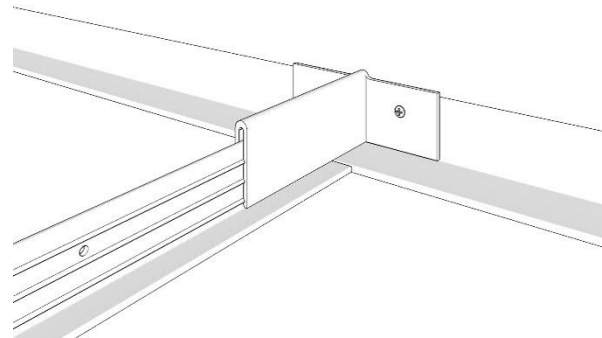

FIG. 7
4. Install the **T-Clamp** at the starting end of the **Mainrail** (**T-Junction**). The **T-Clamp** should rest on top of the **Wallrail** and be securely attached to the wall to prevent shifting during the grid installation. This mounting will provide a flush **Rail** finish. Use appropriate fasteners for job conditions. FIG. 7